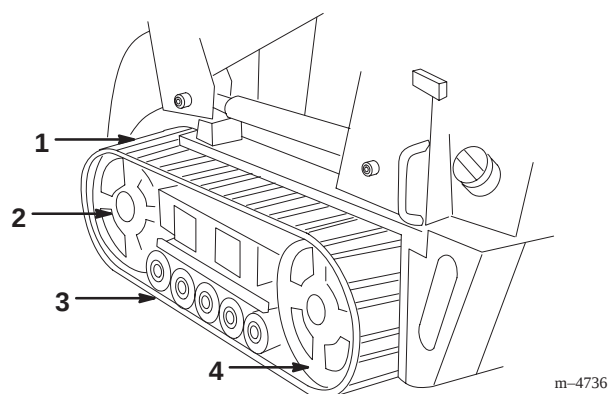

Figure 29
**IMPORTANT:** Ensure that you fully clean the road wheels, the tension wheel, and the drive sprocket (Fig. 29). The road wheels should rotate freely when clean.